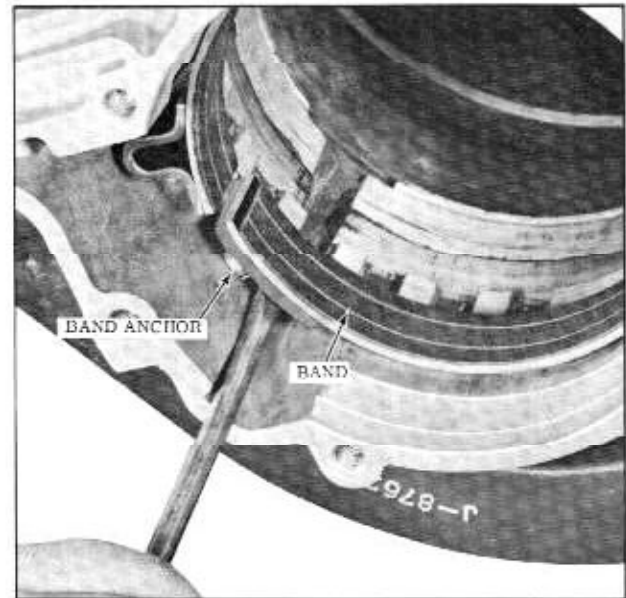

Figure 3-55 Removing Overrun Band
19. Unhook the band from the anchor and lift upwards to remove. (Fig. 3-55)